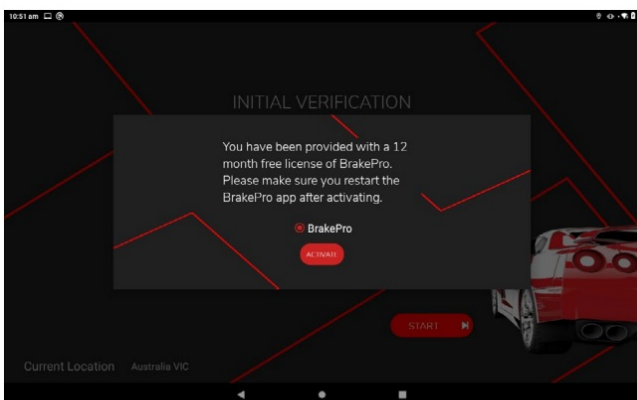
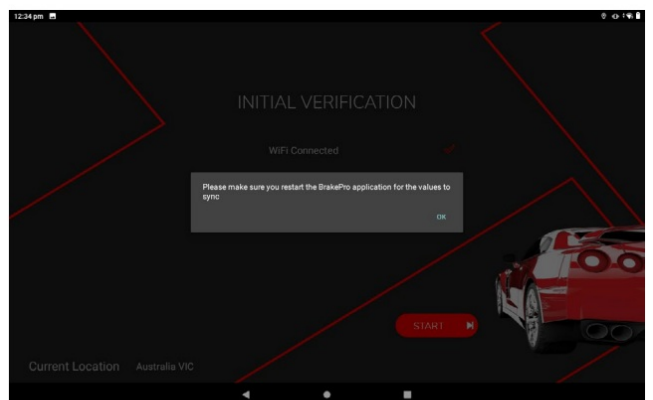

Figure 10
Figure 11
- **Step 7.** Press “Activate” to apply the provided 12-month license of Brake Pro (Figure 10). Ensure you restart the Brake Pro app after activating the license (Figure 11).